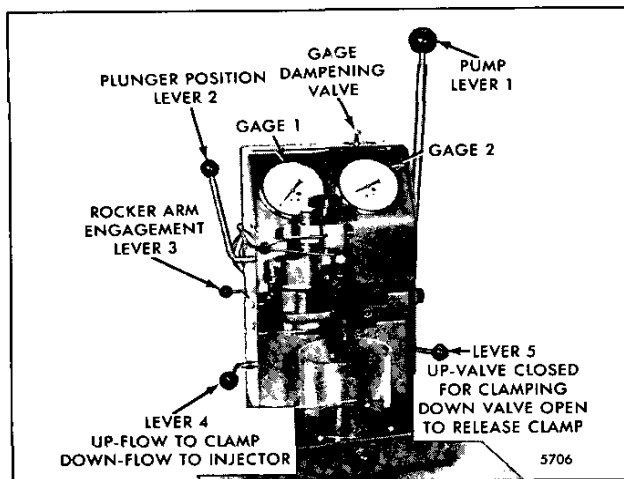

Fig. 36 – Injector in Position for Testing with Tester J 23010-A
1. Clamp the injector properly and purge the air from the system (Fig. 36).
1. Clamp the injector properly in Tester J 23010-A and purge the air from the system (Fig. 36).